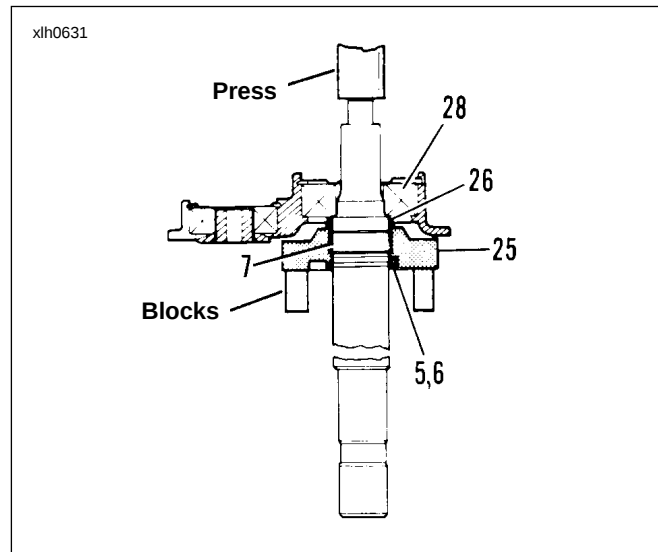

Figure 6-41.
11. See Figure 6-41. Place mainshaft and access door assembly on arbor press with support under mainshaft 4th gear (25). Press on end of shaft until mainshaft is free of access door bearing. Remove spacer (26), mainshaft 4th gear (25) and split bearing (7).